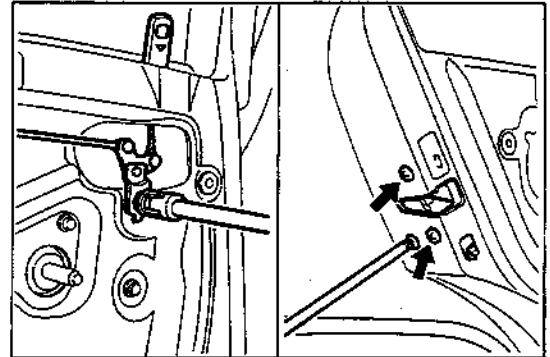

Fig. 9-153
- (1) Install the rear door opening control link.
- (2) Install the rear door locking link subassembly.
3. Install the rear door lock assembly and rear door locking button in the rear door. (See Fig. 9-153.)